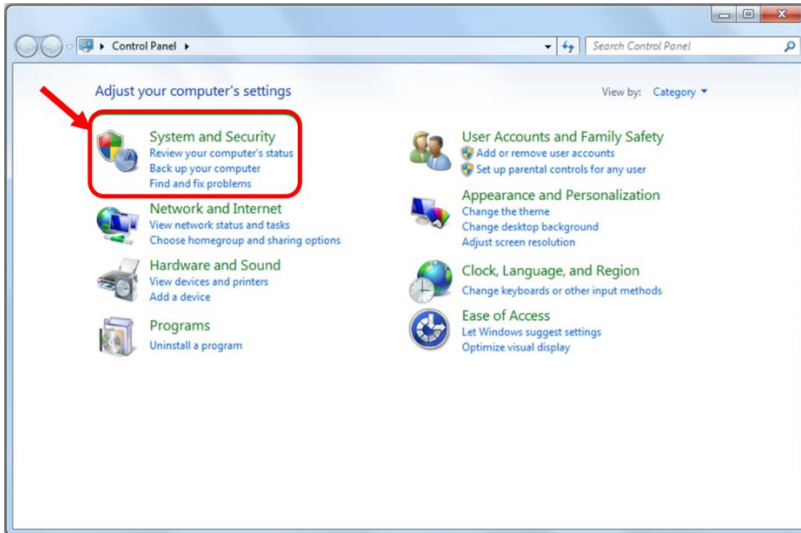

Fig. 10 Control panel.
- Press Start and Select Control Panels (Fig. 10)